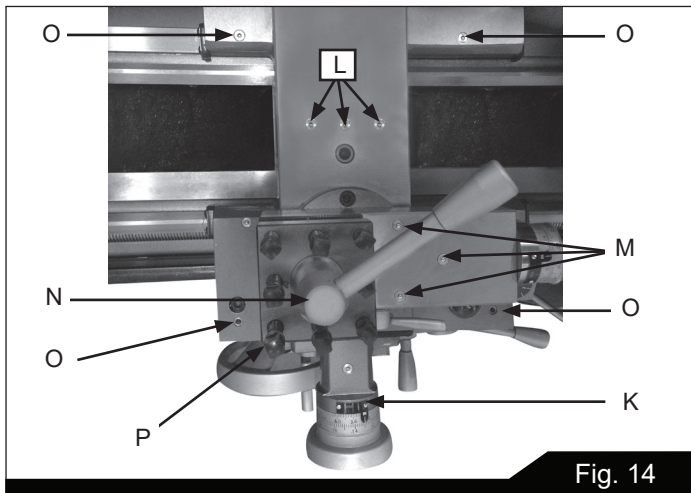

Fig. 14
7. Cross Slide – Daily lubricate one ball oiler on the handwheel housing (K, Figure 14) and three ball oilers on the platform (L, Figure 14).
8. Compound Rest – Daily lubricate two ball oilers (M, Figure 14) on top of compound rest.
9. Tool Post – Regularly clean dirt and coolant around the tool post to maintain its re-positioning accuracy. Daily lubricate one ball oiler on top the clamping hub (N, Figure 14).
10. Saddle – Daily lubricate four ball oilers (O, Figure 14) and one ball oiler on the handwheel shaft (P, Figure 14).